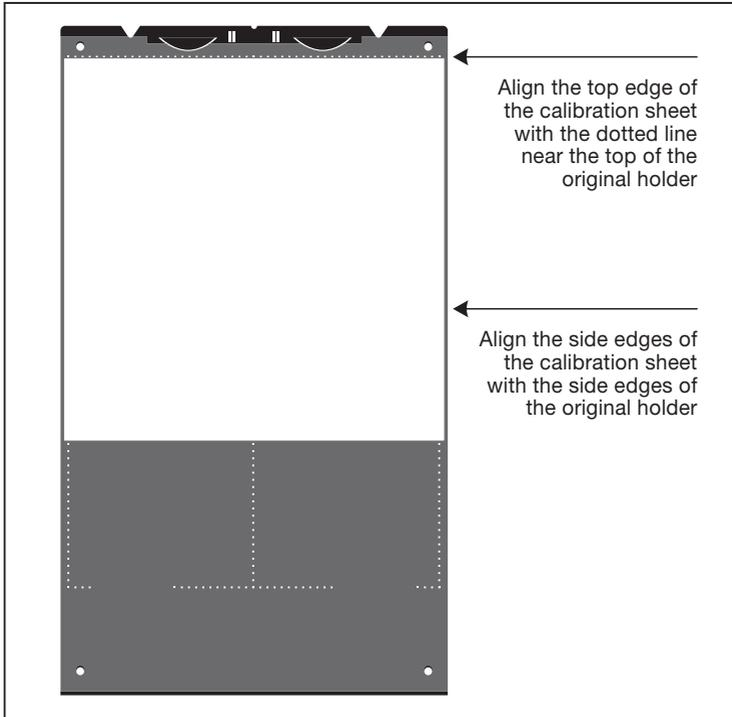

Figure 10: Positioning the white calibration sheet on the reflective holder
3. Align the top edge of the sheet with the dotted line near the top of the original holder (see Figure 10 opposite). Align each side of the target with the edges of the original holder.